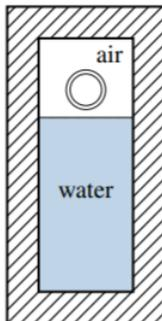

Figure 3.22
3.2 The apparatus shown in Fig. 3.22 consists of fixed amounts of water and air and an incompressible solid glass sphere (a marble), all enclosed in a rigid vessel resting on a lab bench. Assume the marble has an adiabatic outer layer so that its temperature cannot change, and that the walls of the vessel are also adiabatic.